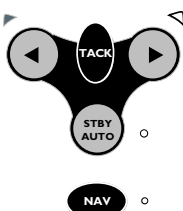

Fig 4.3 - Entering Calibration mode
- Press and hold the **TACK** key, then press **NAV (CAL)** (Fig 4.3).